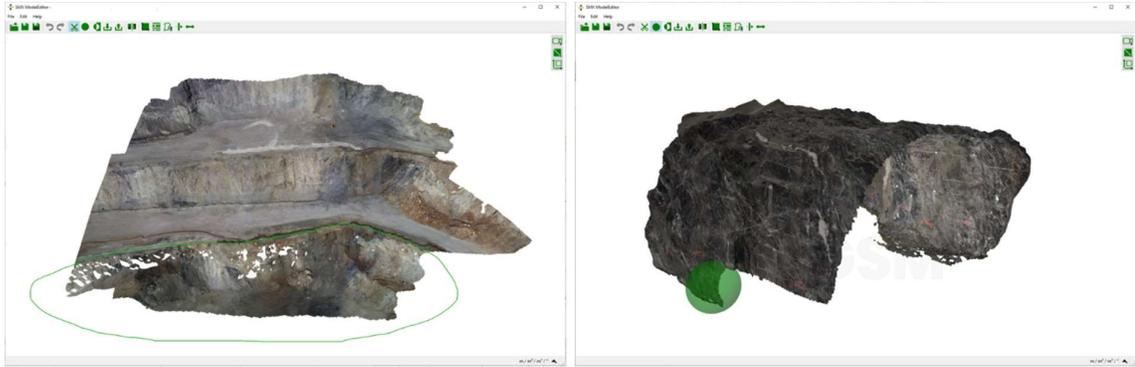
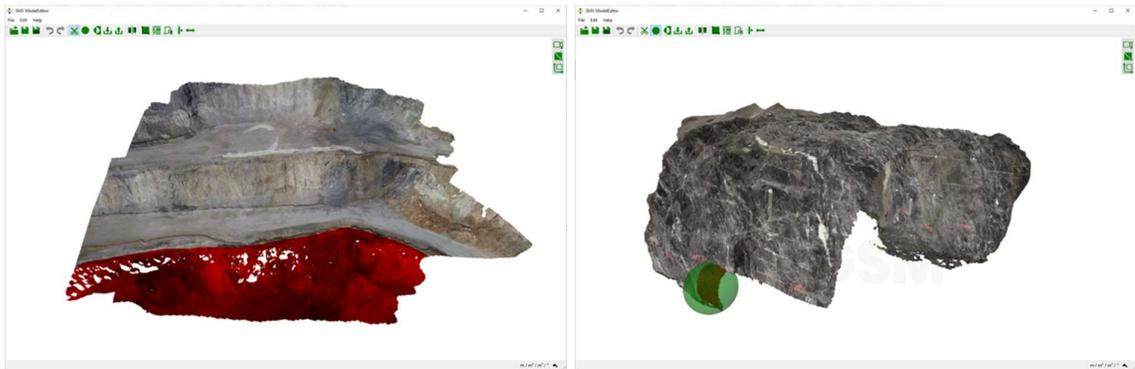

Figure 11: Region to delete. Left: enclosed by a polygon (green solid line). Right: enclosed by a (green) sphere
Figure 12: Highlighted region to delete (red)
- "Trim Mode with Polygon"  button and enclose the region to delete by dragging the cursor across the 3D point cloud while keeping the left mouse button pressed (Figure 11). Release the mouse button and the selected region is highlighted in red (Figure 12).OR
- "Trim Model with Sphere"  button and mark the region to delete by a sphere. Adapt the size by holding "Shift" and moving the mouse wheel (Figure 11). Release the mouse button and the selected region is highlighted in red (Figure 12).